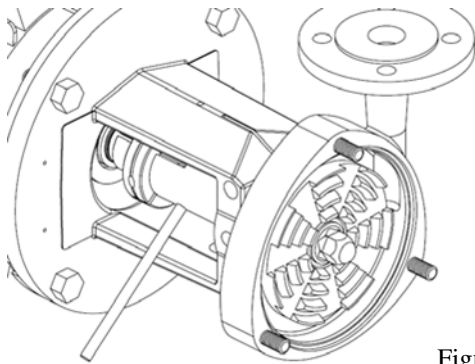

Figure 17
9. Once again insert a 3/8" bar into the hole of the stub shaft to hold the rotating parts while tightening the impeller nut. See Figure 17.